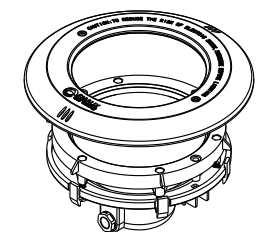

Figure 6
- 2) Install the new plastic lid or stainless steel lid as shown in figure 6, make sure the screws hole are aligned. Fasten the M6 screw on the lid.